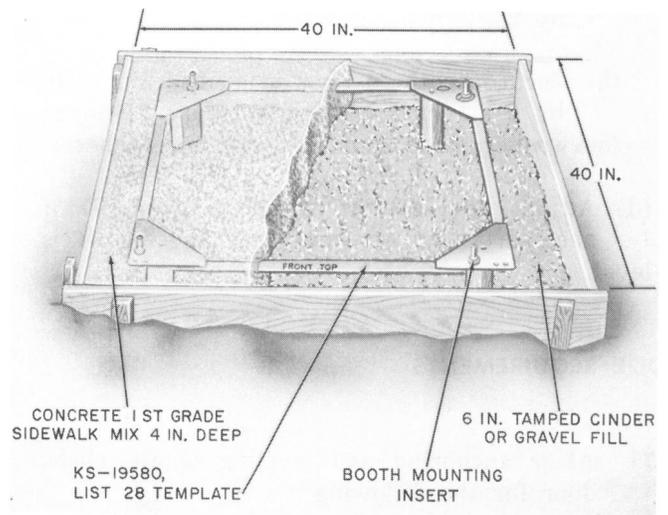

Fig. 15—Concrete Base Preparation With KS-19580, List 28 Template
(a) Prepare a form 40 inches square with an inside depth of 10 inches (Fig. 15).
- (c) Position the template in the form on wooden blocks so that the top of four mounting inserts will be flush with concrete base as shown in Fig. 15.